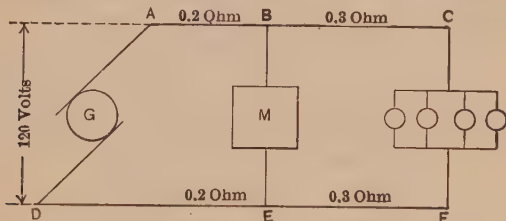

FIG. 70.
**Prob. 9.** Each lamp, Fig. 70, takes 2 amperes. Motor *M* takes 10 amp.